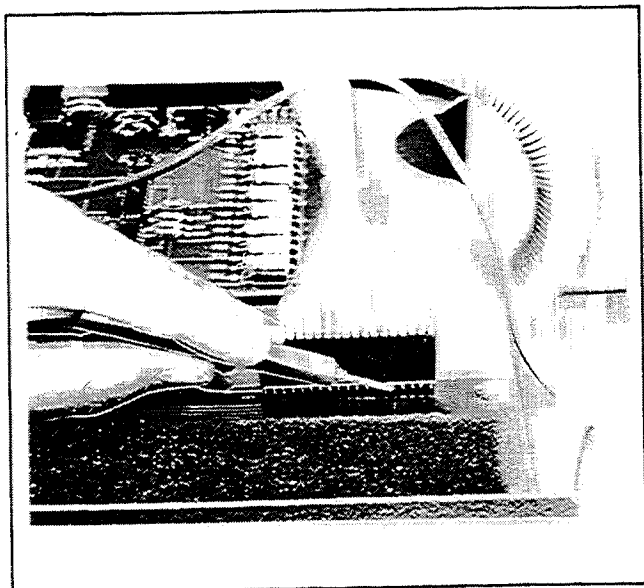

Figure 3-11. Voltage Check at Connector Pin
- A. With a voltmeter, check for a reading of 0.5 to 1.0 volts from connector P5, pin 9 to ground, as shown in Figure 3-11.